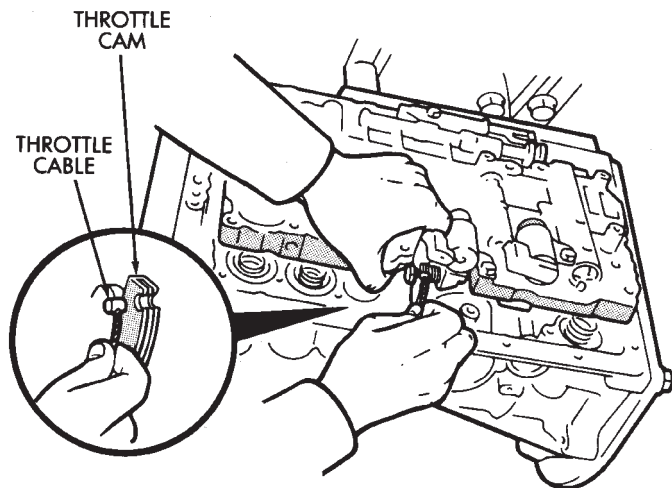

Fig. 176 Connecting Transmission Throttle Cable
(84) Connect transmission throttle cable to throttle valve cam (Fig. 176).